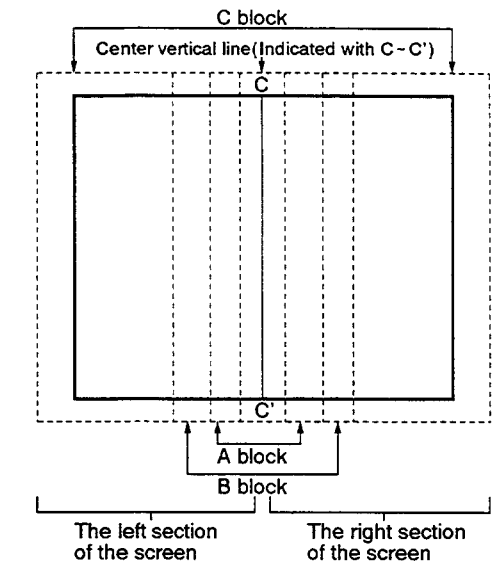

Fig. 9-9 Screen Divisions for Horizontal Adjustment
- For information on blocks which are referred to in some operation columns, see Fig.9-9 and 9-13.
See Fig. 9-9 for reference, in which each of the sections to the right and left to the center vertical line of the screen are divided into three blocks to describe the picture movements.